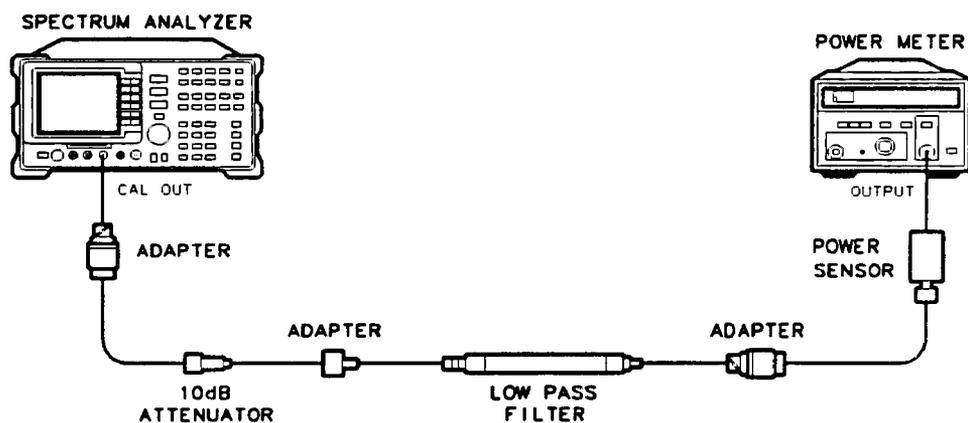

Figure 4-13. Calibrator Amplitude Accuracy Test Setup
11. Connect the equipment as shown in Figure 4-13. The analyzer should be positioned so that the setup of the adapters, LPF and attenuator do not bind. It may be necessary to support the center of gravity of the devices.